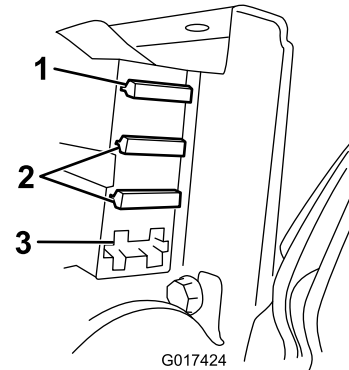

Figure 36
3. Check the fuses in the fuse block (Figure 36).
- If any of the fuses are blown, replace them with a fuse of the appropriate voltage and amperage (Figure 36).